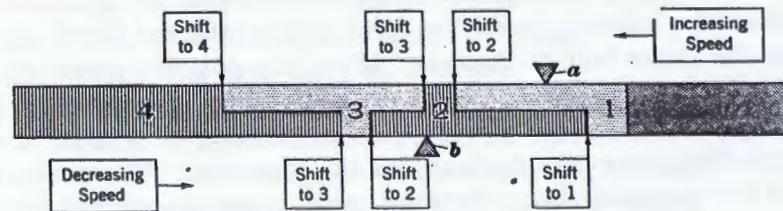

FIG. 8. DIAL OF TRANSITION INDICATOR
**19. Transition Indicator.**—The dial of the transition indicator or meter, is arranged as shown in the drawing in Fig. 8. It is divided into four areas numbered 1, 2, 3, and 4 as shown. The No. 1 area is divided into two sections, namely, a red overload section on the right and a yellow section on the left. The No. 3 area is also yellow, whereas the areas numbered 2 and 4 are green to separate the sections from one another. The indicator has a movable pointer, not shown, which is operated by the current of the armature circuit of the No. 4 traction motor of the leading unit. The pointer therefore moves back and forth across the dial with the variation of the traction-motor current. The upper half of the dial is used in connection with increasing speeds as noted on the dial. The lower half of the dial is used in connection with decreasing speeds. A red triangle at *a* indicates the maximum continuous current of the traction motors with the transition lever in No. 1 position, and the lower red triangle *b* is used in conjunction with the dynamic brake.
**20. Forward Transition.**—When the locomotive is starting from rest and the locomotive speed is constantly increasing, the pointer on the dial, Fig. 8, moves from right to left and, as the locomotive is always started with the transition lever in No. 1 position, the transition lever is moved into No. 2 position when the pointer crosses the dividing line into the No. 2 area at the upper half of the dial. When the pointer crosses into the No. 3 area, the transition lever is moved into its No. 3 position and similarly, when pointer enters No. 4 area, the transition lever is worked into its No. 4 position. The position of the transition lever, therefore, must always correspond with the position of the pointer. This insures that transition will always occur at the proper speed of the traction motors as described in Art. 16.
**24. Backward Transition.**—When the train speed decreases owing to a heavy pull on a grade, the lower half of the indicator dial is used to indicate the proper position of the transition lever. The transition lever is moved from No. 4 position to No. 3 position as the pointer of the indicator crosses from area 4 to area 3 on the dial. As the indicator crosses from area 3 into area 2, the throttle setting must be reduced to Run 6 or lower before the transition lever can be shifted from position 3 to position 2. If the pointer continues to move to the right into area 1, the transition lever is also moved to position 1 to correspond. The pointer should not pass to the right of the upper red triangle *a*, Fig. 8, or be allowed to remain there for any length of time, except in special cases where calculations of the manufacturer have indicated that it is permissible or for an instant while shifting the transition lever from position 2 to position 1.
29. **Dynamic Braking.**—The transition braking lever also controls the dynamic brakes on the locomotive. The transition braking-lever slot in the controller contains a stop that separates the power movements from the braking movements. When braking is required, the throttle lever is moved to idle position and the transition braking lever is lifted over the stop to "off" braking position. After a delay of a few seconds the lever may be moved to the B-position to bunch the train slack gradually. The initial strength of the brake depends on the train speed, and the same care is used in applying the dynamic brake as is used when using the independent air brake. After the slack has been bunched, the lever can be moved counterclockwise for increased braking as desired. The pointer of the transition-meter dial, Fig. 8, indicates the traction-motor current when braking as well as when motoring. The lower red triangle of the meter indicates the maximum allowable motor current while braking, and the pointer should not move to the right of this mark. If the transition indicator is disregarded and the dynamic braking is excessive, the brake overload warning light on the transition-indicator meter will flash at the danger point and it will be necessary to apply the train air brakes until the light goes out. If the dynamic braking lever is backed off without applying the train brakes, the light will go out only for a moment, as the train speed will then increase and bring the motor current back to the high limit. Hence, the train brakes must be used when the warning light operates, and the air brakes on the locomotive are kept released to avoid wheel slide. The unit selector switch must always be set before beginning the trip and never disturbed during dynamic braking.